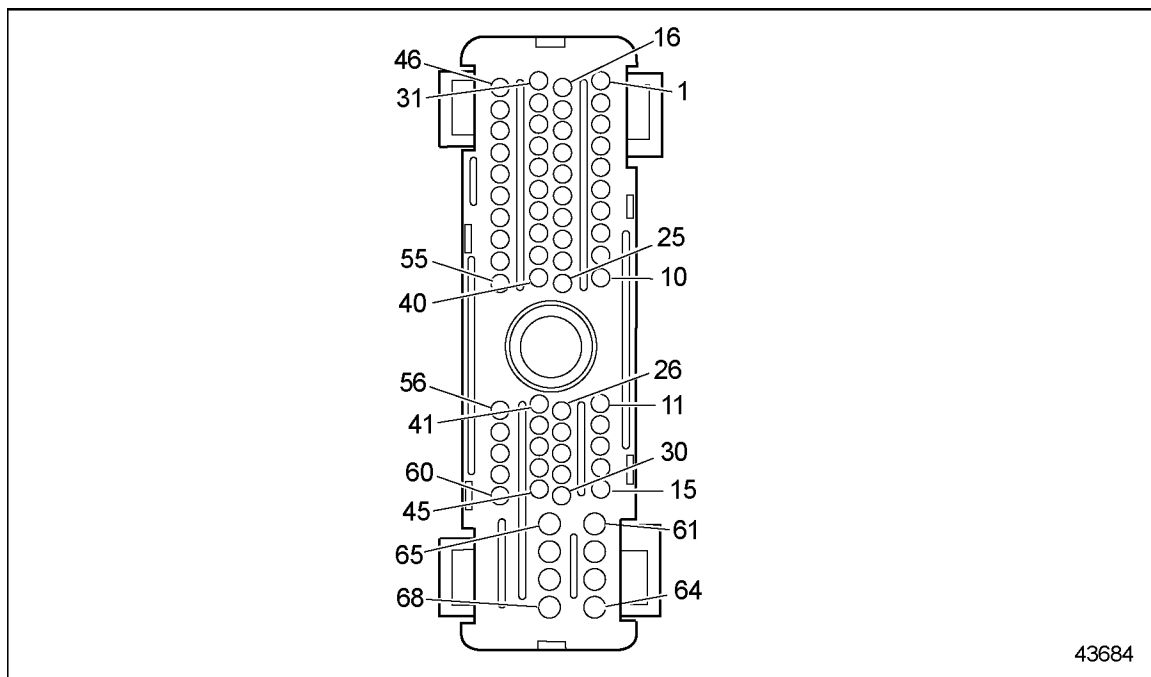

Figure 23-3 ECM/ECU Engine Harness Connector
3. Measure resistance between sockets E-5 and E-26, E-5 and E-12 on the Engine Harness connector. See Figure 23-3.
3. Measure resistance between sockets E5 and E-15 on the Engine Harness connector. See Figure 23-3.
4. Check terminals at the ECM/ECU Engine Harness connector (both ECM/ECU and harness side) for damage: bent, corroded and unseated pins or sockets. See Figure 23-3.